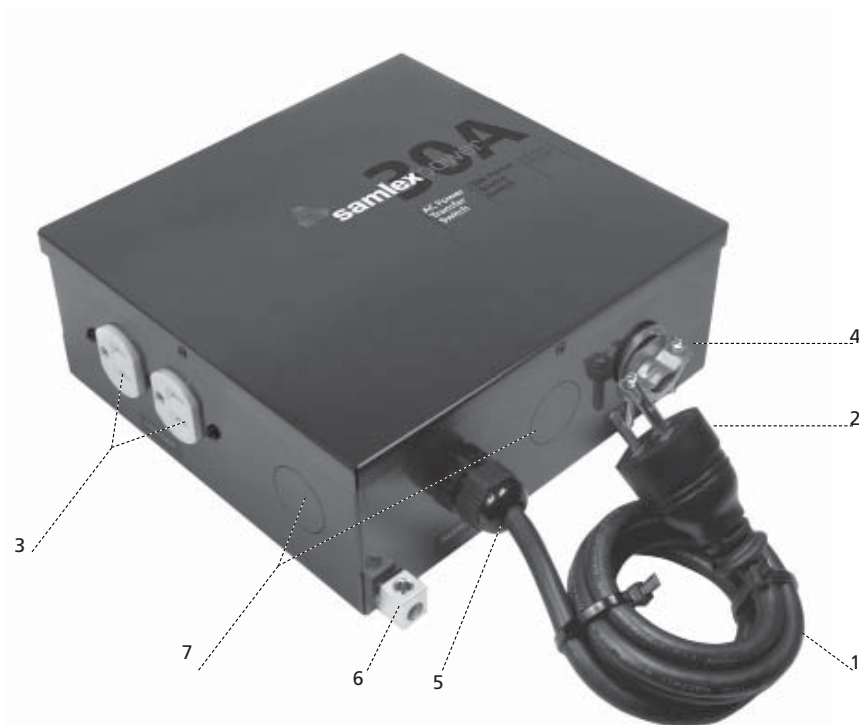

Fig. 1. External view and layout
- Multiple ¾" and 1" knockouts (7, Fig. 1) have been provided on all the sides for ease of routing the input and output cables
3. A  $\frac{3}{4}$ " cable clamp has been provided (4, Fig. 1). Additional  $\frac{3}{4}$ " and 1" knockouts have been provided for convenience. Please ensure that a cable clamp is used for the cable entries.
- The primary AC power will be the electric utility power (also called the Shore Power Cord or "Cord" in RVs) or a generator. This is connected to the Normally Open Contacts T3 and T4. A dual, 15 A, NEMA5-15R receptacle (3, Fig. 1) has been provided on the side of the unit for ease of connecting the NEMA5-15P plug of a battery charger
- The back-up power will be provided from an inverter. A 15 A power cord (1, Fig. 1) with a 15 A, NEMA5-15P plug (2, Fig. 1) has been provided. This allows very convenient connection to the 15 A, NEMA5-15R receptacle provided on the inverter. The maximum power of the back up inverter should be less than 1800 VA as the maximum capacity of the cord provided for the inverter connection is only 15 A.
#### Preset configuration - Detailed information (Please see Fig. 1, 2 and 4)
- a. Feed the 3 core cable from the electric utility / shore power cord / the generator through the  $\frac{3}{4}$ " cable clamp that has been provided (4, Fig1). Connect the three cores as follows (Fig 4):
- c. Plug the NEMA5-15 plug (2, Fig 1) of the inverter power cord (1, Fig 1) to the output of the inverter (Fig 4). **Please ensure that the inverter is switched off and the battery input connection to the inverter is disconnected.**
- d. Plug the external battery charger to one of the receptacles of the dual NEMA5-15R receptacle (3, Fig 1; Fig 4). **Please ensure that the AC input current of the battery charger is less than 12 A continuous as the receptacle is internally fused at 15 A max. In case the current drawn by the external battery charger is > 12 A continuous, the charger should be wired to a separate circuit connected to the NO contact terminals T3 and T4 through a fuse applicable to the input current of the charger.**
- e. **In case the Transfer Switch is being used in an RV application, the built-in converter of the RV should be disconnected from the AC Breaker Panel (Fig 4).** This is necessary because when the electric utility / shore power cord / the generator fails / is removed, the panel will be fed by the inverter and if the converter is not disconnected from the panel, it will result in a battery to inverter to converter to battery loop that will quickly drain the batteries. In case the external battery charger is not being used, the converter may be re-wired to the one of the dual NEMA5-15R receptacles (3, Fig 1). As these receptacles are connected to the NO contact terminals T3 and T4, the converter will always be powered from the electric utility / shore power cord / the generator. **In case the current drawn by the converter is > 12 A continuous, the converter should be wired to a separate circuit connected to the NO contact terminals T3 and T4 through a fuse applicable to the input current of the converter.**
- a. Connect the Shore Power Cord leads to the Normally Closed (NC) contacts T-5 and T-6 of the Transfer Relay. The pre-wired 15 A cord (1, Fig1) and NEMA5-15 plug (2, Fig 1) can be used for 15 A service (If it is required to be connected to a 30 A service, this cord should be replaced with a 30 A cord).
- b. Connect the generator leads to the Normally Open (NO) contacts T3 and T4 of the Transfer Relay .If convenient, use the knockout and the  $\frac{3}{4}$ " cable clamp provided – marked "Shore" (4, Fig 1). Otherwise, use any other convenient knockout with corresponding cable clamp.